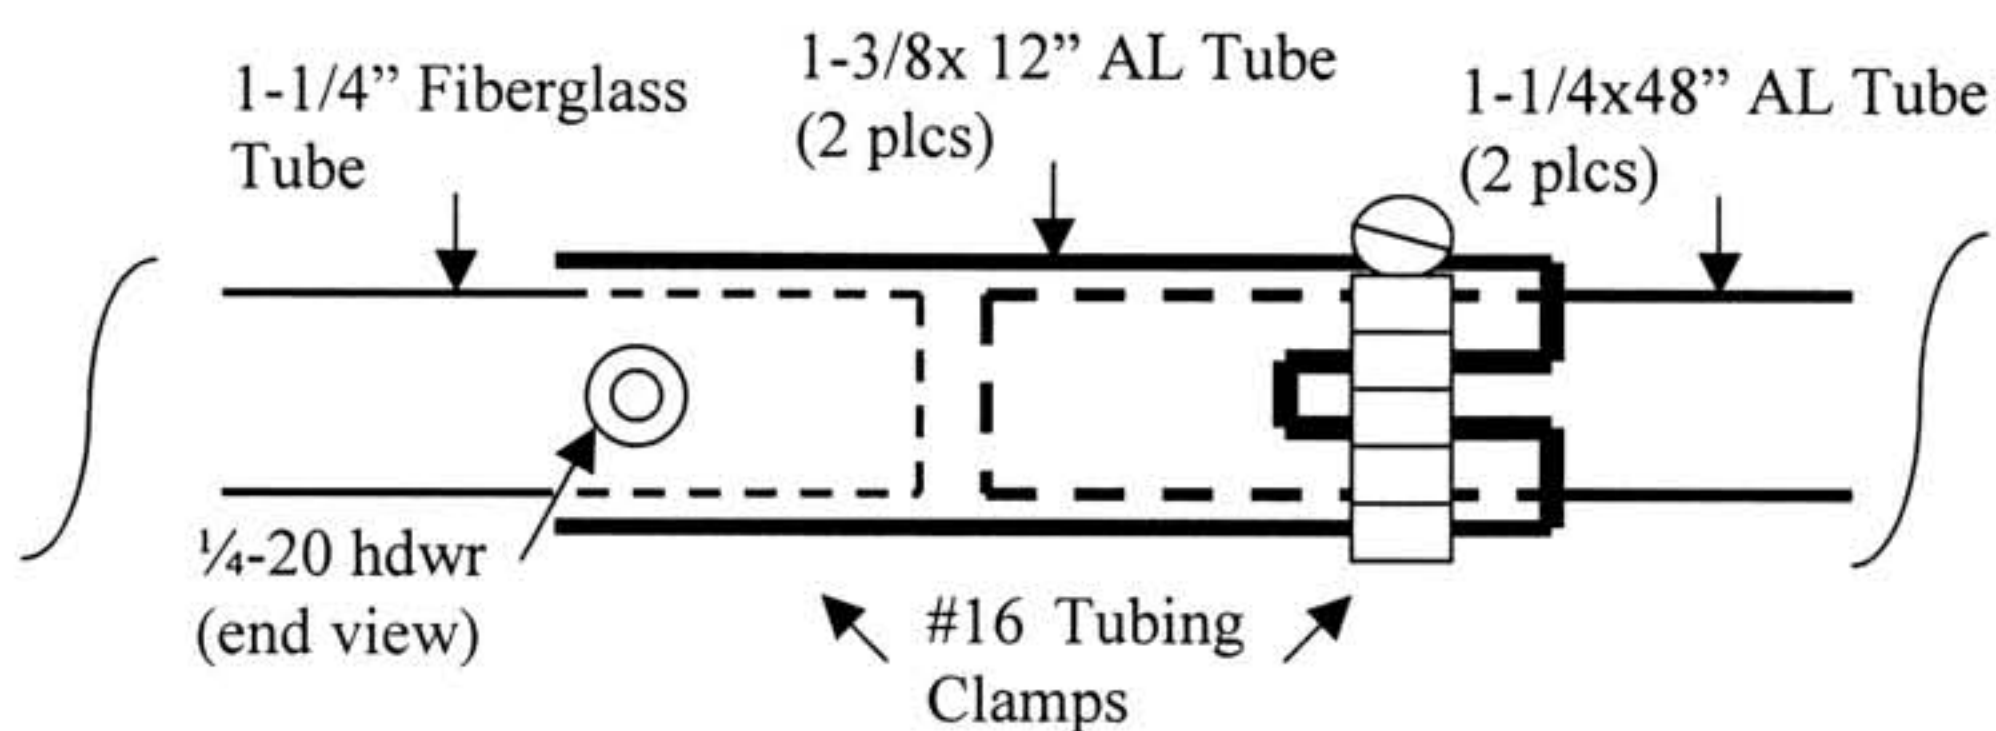

Figure 3: 48" Radiator Tube to Center Insulator Assembly
- 5) Slide the two 1-1/4 x 48" aluminum radiator tubes into each of the 1-3/8" x 12" aluminum tubes mounted to the 1-1/4" x 12" fiberglass rod. The 48" aluminum tubes should slide up against the fiberglass rod. Clamp the 1-1/4 x 48" aluminum tubes to the 1-3/8 x 12" aluminum tubes using #16 tubing clamps as shown in Figure 3.